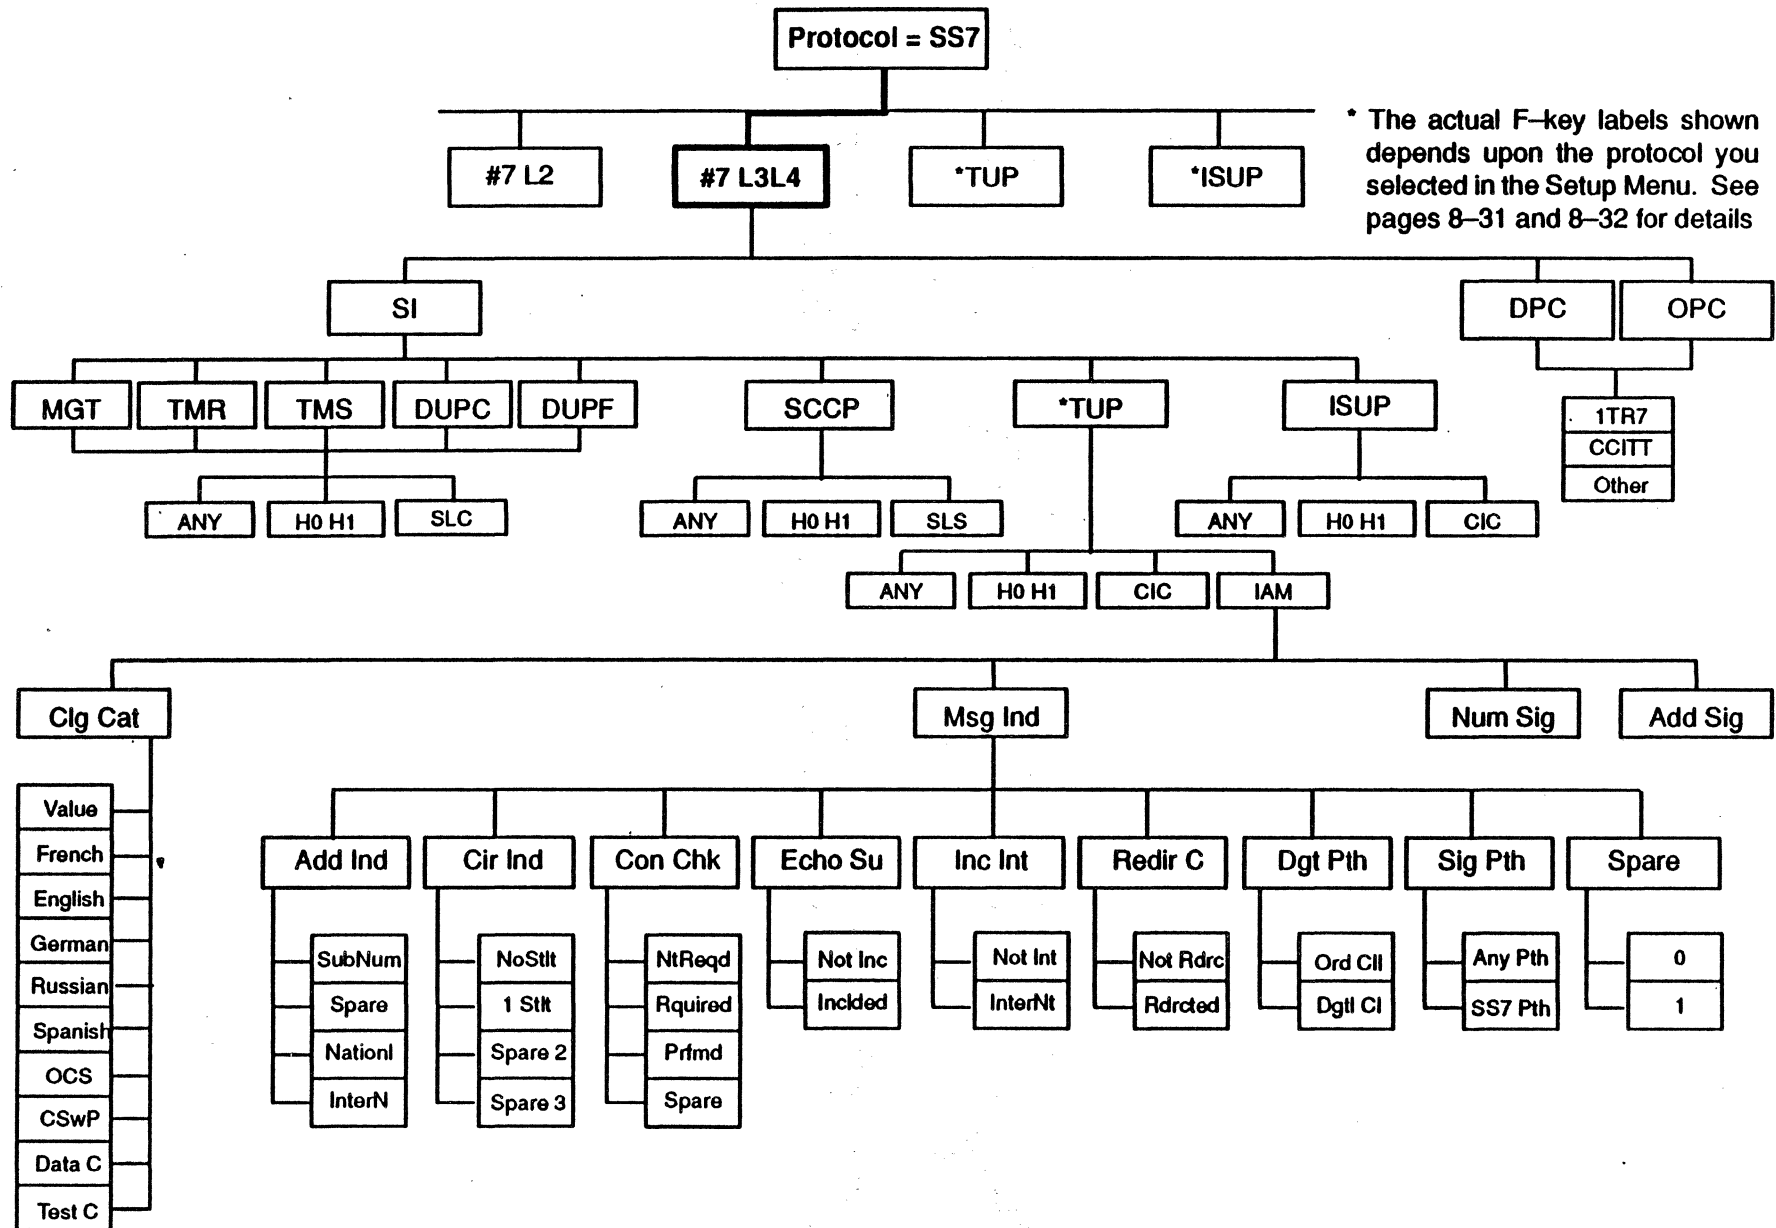

Figure 8.8: SS#7 Level 3 and Level 4 Triggering Options.
**F7 #7 L3L4** displays the menu of SS#7 Level 3 and Level 4 triggering options, as shown in Figure 8.8. This option enables you to trigger on specific Signalling Indicators, their components, and the following Level 3 and Level 4 elements:
**IAM** (Initial Address Message). This option, available only when the TUP SI is selected, allows you to trigger on IAM elements. See page 8–29 for further details. Figure 8.8 lists the elements available for triggering.